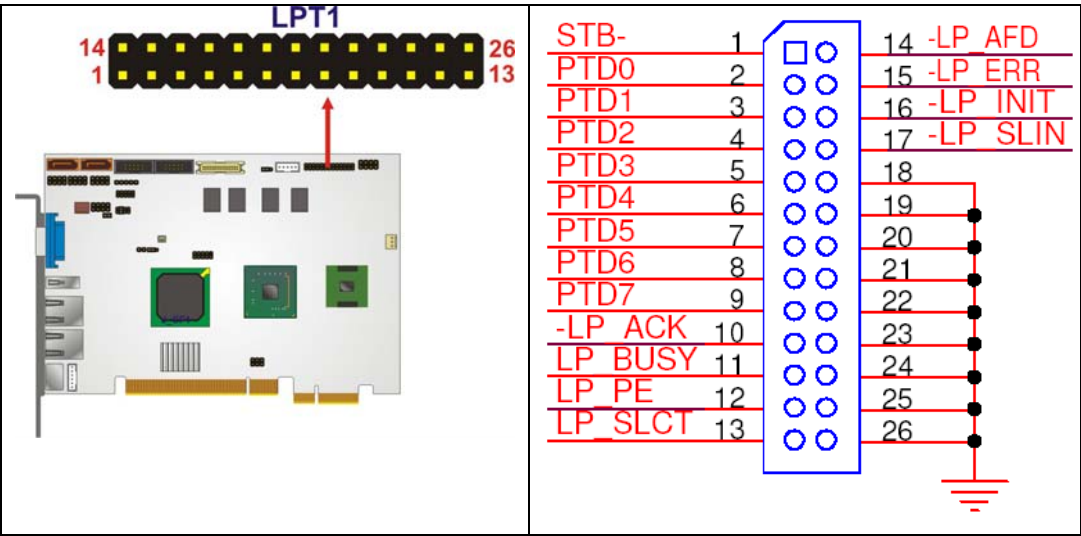

Figure 4-13: Parallel Port Connector Location
- CN Location: See Figure 4-13